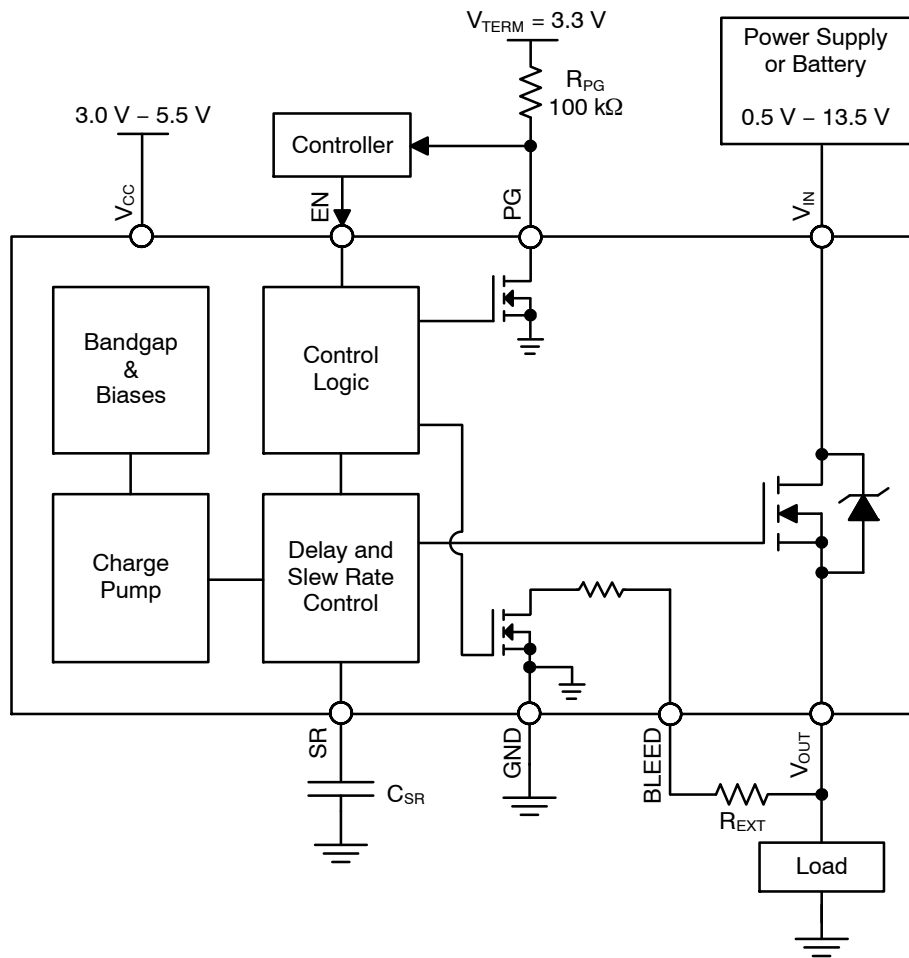
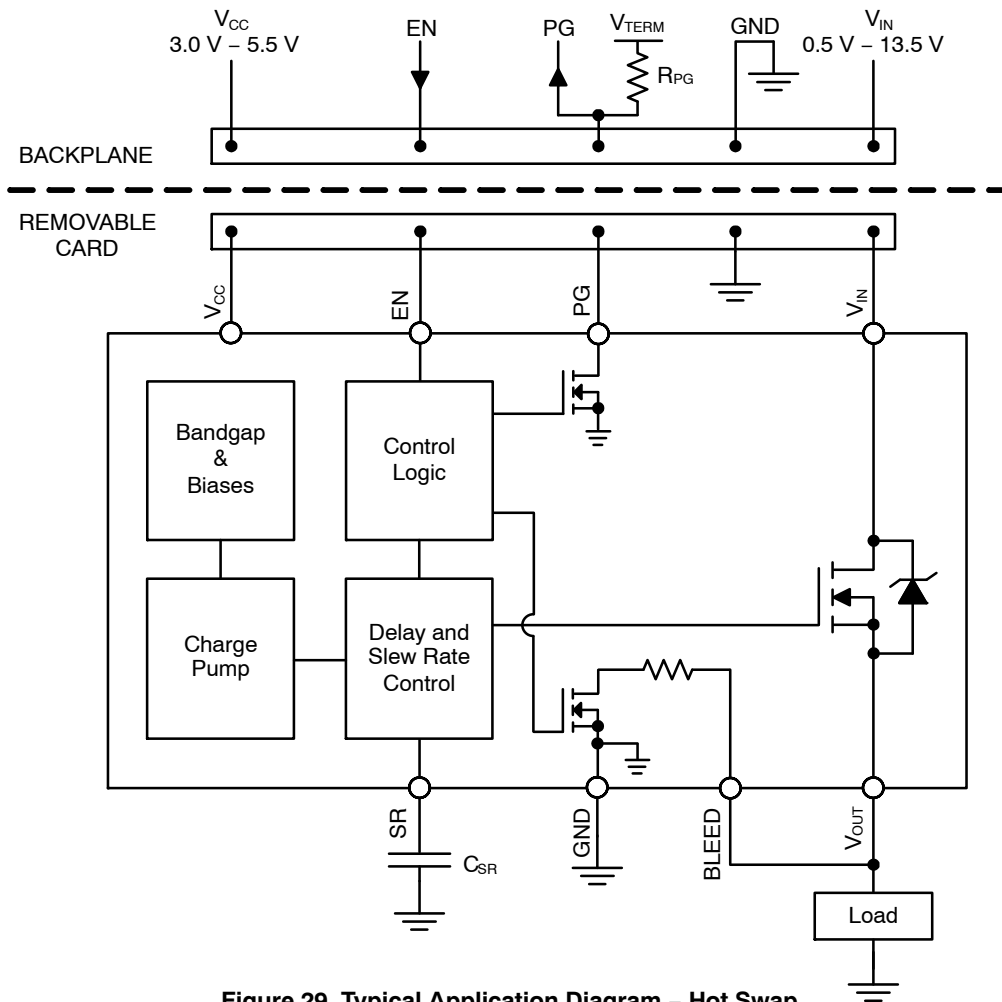

Figure 28. Typical Application Diagram – Load Switch
Figure 29. Typical Application Diagram - Hot Swap
It is required that the BLEED pin be connected to V_{OUT} either directly (as shown in Figure 29) or through an external resistor, R_{EXT} (as shown in Figure 28). R_{EXT} should not exceed 100 M Ω and can be used to increase the total bleed resistance and decrease the load bleed rate.
The NCP45541 devices have a power good output (PG) that can be used to indicate when the gate of the MOSFET is fully charged. The PG pin is an active-high, open-drain output that requires an external pull up resistor, R_{PG} , greater than or equal to 1 k Ω to an external voltage source, V_{TERM} , compatible with input levels of other devices connected to this pin (as shown in Figures 28 and 29).
The slew rate can be decreased with an external capacitor added between the SR pin and ground (as shown in Figures 28 and 29). With an external capacitor present, the slew rate can be determined by the following equation: